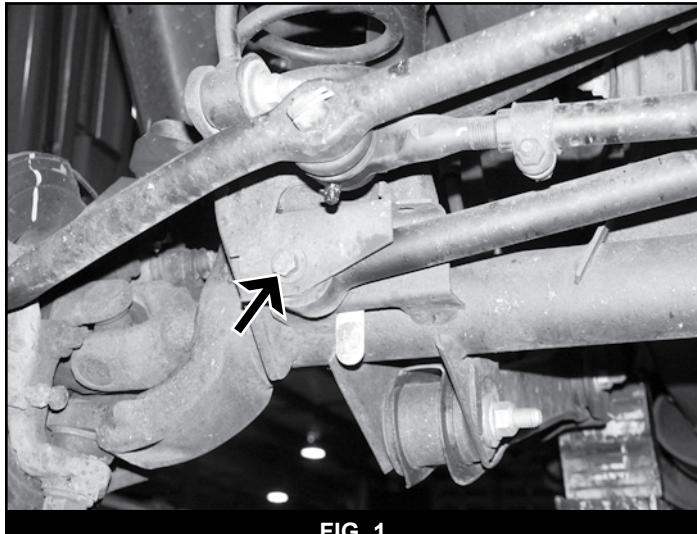

FIG. 1
- Remove the bolt mounting the front track bar to the passenger's side of the axle (Figure 1). Save track bar bolt and nut tab. Allow the track bar to hang free. Note: The track bar bolt may require a T-50 Torx socket on early models.